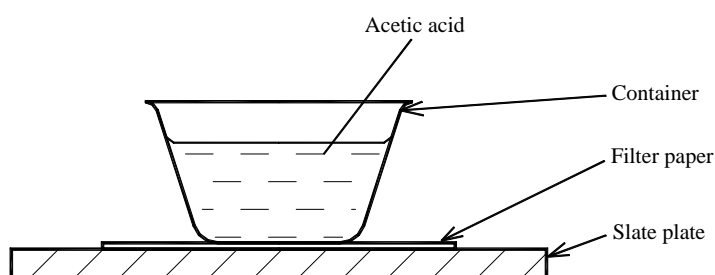

Figure 1: Schematic diagram to show the experimental setup.
4.2 Fill the container up to 80% of its capacity with acetic acid. Take care not to splash out any acid to the filter paper when filling the container (see Figure 1).